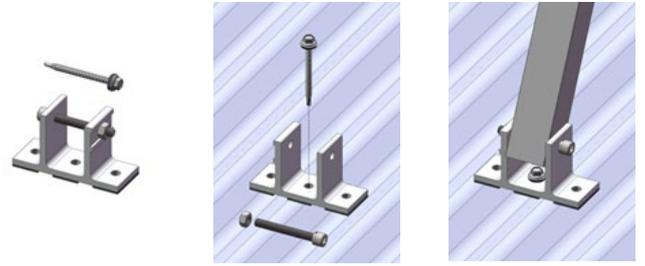

Figure 5.7f
2. Single screw shall be installed through central hole only of rear leg (as shown in Figures 5.7f and 5.7h).